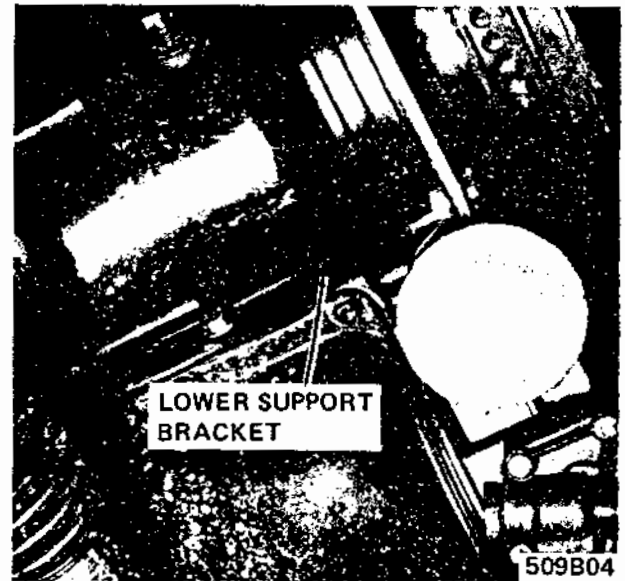

Figure 9B-6 Compressor Lower Support Bracket
8. Support compressor from underneath and remove support bracket and 3 compressor mounting support bolts. Carefully lower compressor. During removal, maintain the compressor position so that the sump is downward. Do not rotate compressor shaft. See Figure 9B-6.